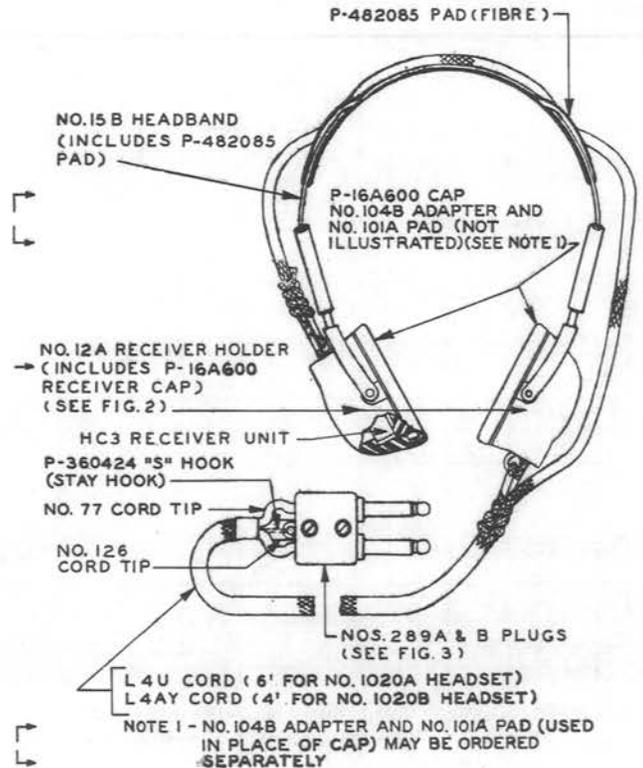

Fig. 1 - 1020-type Headset
3.05 No. HC3 Receiver Unit: To replace the receiver unit (Fig. 1) unscrew the receiver cap from the receiver case and remove the receiver unit. Mount the new receiver unit so that the code marking on the unit is
1. To replace the P-461464 cap with the P-16A600 cap (Figs. 1 and 2).
3. To revise Figs. 1, 2, and 3 in accordance with the latest format.